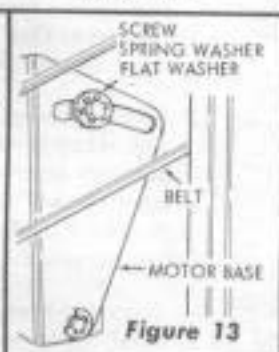

Figure 13
- The adjustment is made by tightening (or loosening, as required) a screw that secures the slotted slide on motor base to the support assembly. (See figure 13.) This screw controls the pressure between a spring washer and flat steel washer.